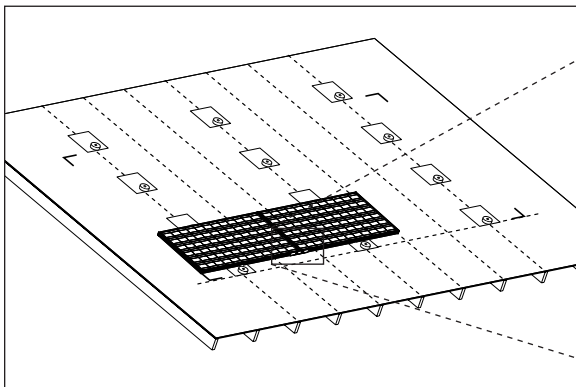

Figure 5.5A
1. Bring the first two Modules on the roof and set them down end-to-end in landscape orientation or side-to-side in portrait orientation near the SW or SE area of the array (Figure 5.5A). These instructions assume that you are starting at the SW corner of the array area. Module junction boxes should be oriented per system design to allow for ease of Module interconnections.